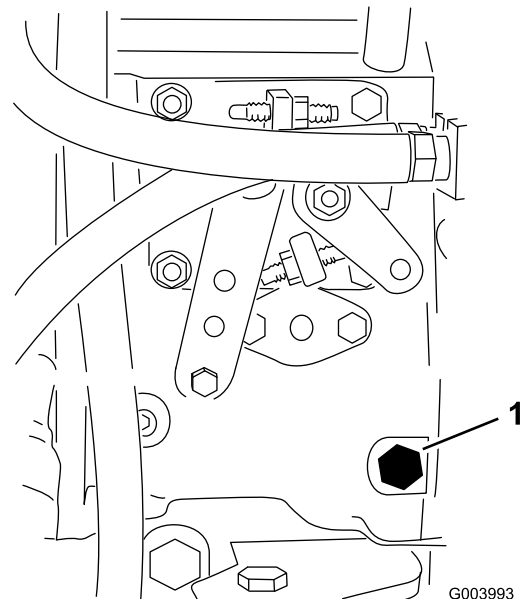

Figure 34
3. Open the air-bleed screw on the fuel-injection pump (Figure 34) with a 12 mm wrench.